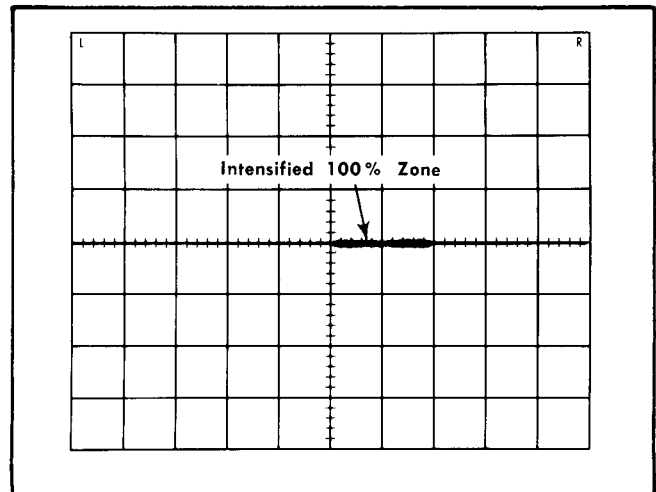

Fig. 6-33. Typical CRT display of Digital Readout Intensification with sampling Plug-In Units.
- Check—For intensified portion of the sweep (Fig. 6-33).